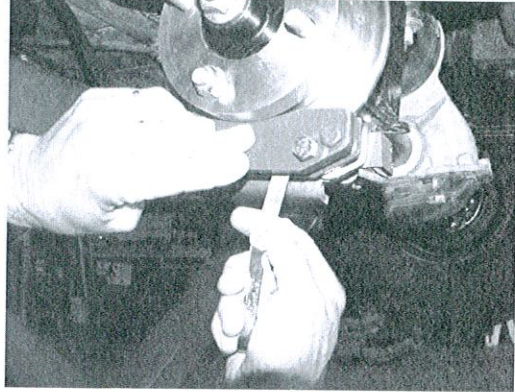

Fig. 14 Check pad clearance of both wheels at the same time.
- a. Insert feeler gauge between back of rotor and inside brake pad in the center of the pad. (See Fig. 14)